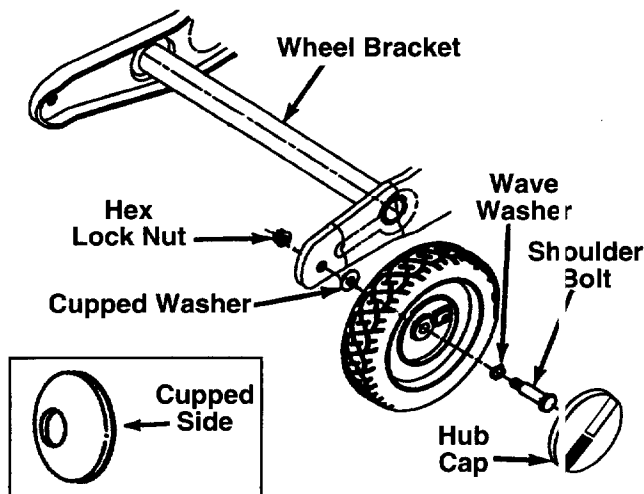

FIGURE 2.
- Remove the hex lock nuts and shoulder bolts from the front of the wheel brackets. See figure 2.
NOTE: Cupped side of the washer goes against the chipper chute. See figure 2 inset to find out the cupped side of a washer.